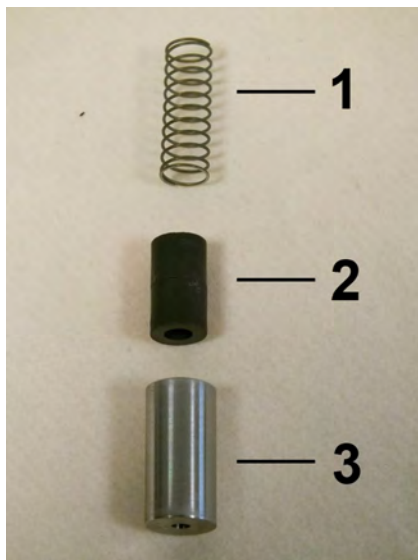

Fig. 39: Spring, magnets and float
5. ➔ The inner parts of the flow monitor consist of the spring (Fig. 39/1), magnets (Fig. 39/2) and float (Fig. 39/3).